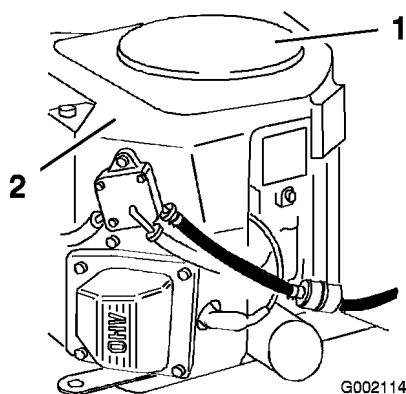

Figure 47
Before each use remove any build-up of grass, dirt or other debris from the cylinder and cylinder head cooling fins, air intake screen on flywheel end, and carburetor-governor levers and linkage. This will help insure adequate cooling and correct engine speed and will reduce the possibility of overheating and mechanical damage to the engine (Figure 47).
3. Remove the blower housing and engine shrouds (Figure 47).